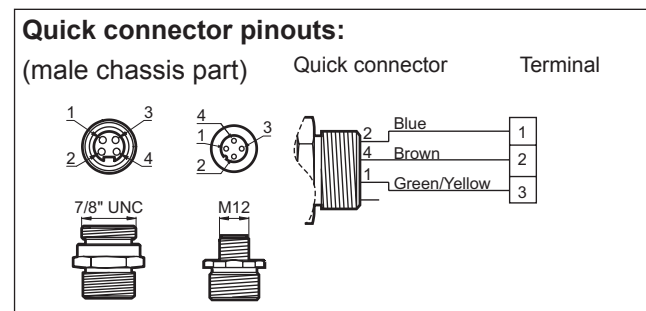

Fig. 2.9 Quick connector pinouts
- For 7/8" or M12 quick connector pinout, see fig 2.9.